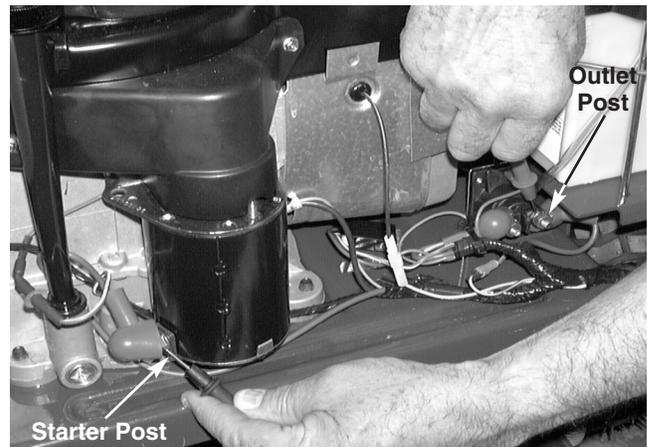

FIGURE 4.
-There will be **CONTINUITY**. See figure 4.